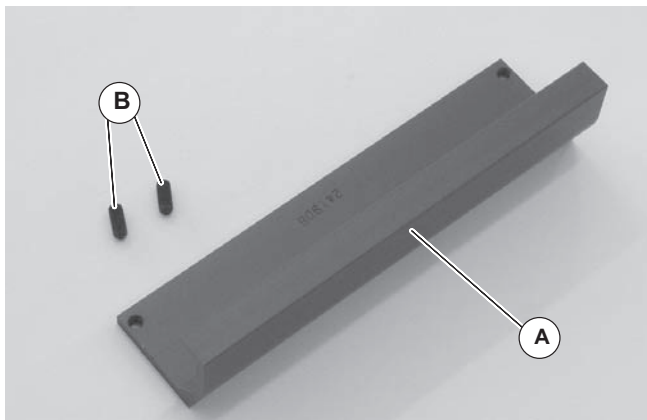

Figure 1
1. Gather components (Figure 1).